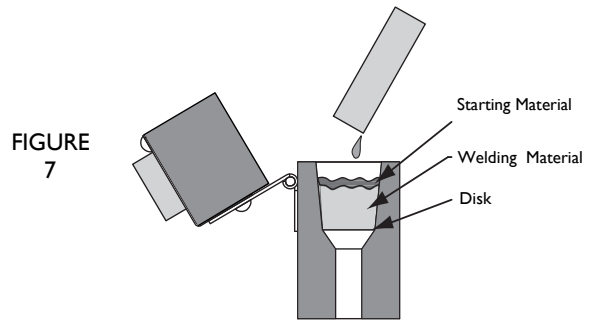

FIGURE 7
3. Dump the contents of the welding material container into the crucible, being careful not to upset the disk, then carefully tap the tube on a hard surface to loosen the starting material from the bottom of the tube and distribute half on top of the welding material. See Figure 7. Close the mold cover, and pour the remainder in the opening of the mold cover. See Figures 7 and 9. Failure to comply may result in difficulty getting the reaction started and/or an unacceptable weld.